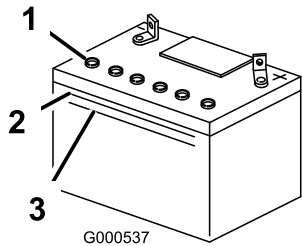

Figure 31
- Look at the side of the battery. The electrolyte must be up to the Upper line (Figure 31). Do not allow the electrolyte to fall below the Lower line (Figure 31).
- Remove the vent caps from the battery (Figure 31).
- Slowly pour distilled water into each battery cell until the electrolyte level is up to the Upper line (Figure 31) on the battery case.
- Wait five to ten minutes after filling the battery cells. Add distilled water, if necessary, until the electrolyte level is up to the Upper line (Figure 31) on the battery case.